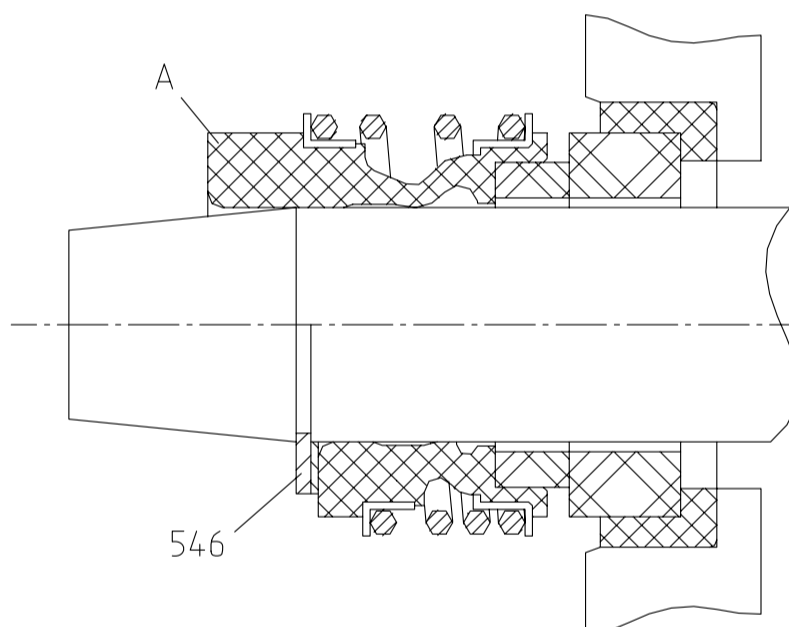

Fig. 18
c) Rubber-bellows seal, external spring - type "G" (Fig. 18)